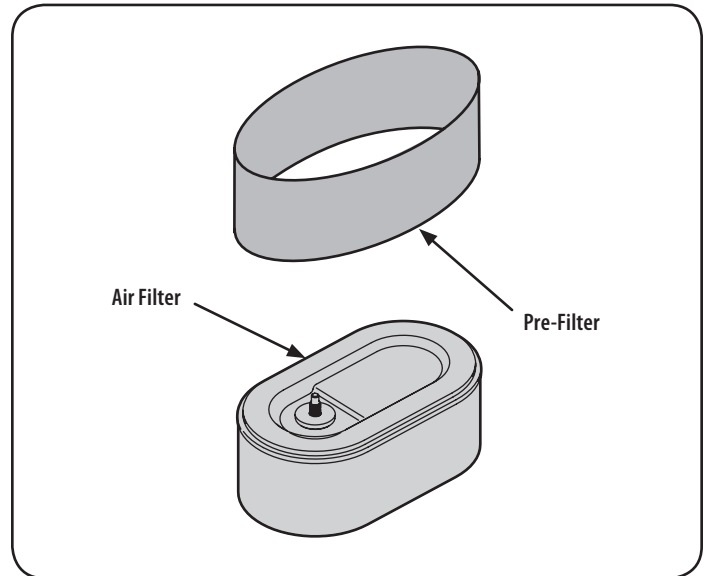

Figure 32
4. Remove the foam pre-filter from around the paper air filter. See Figure 32. Replace paper element when dirty or damaged. Clean foam element or replace when damaged.